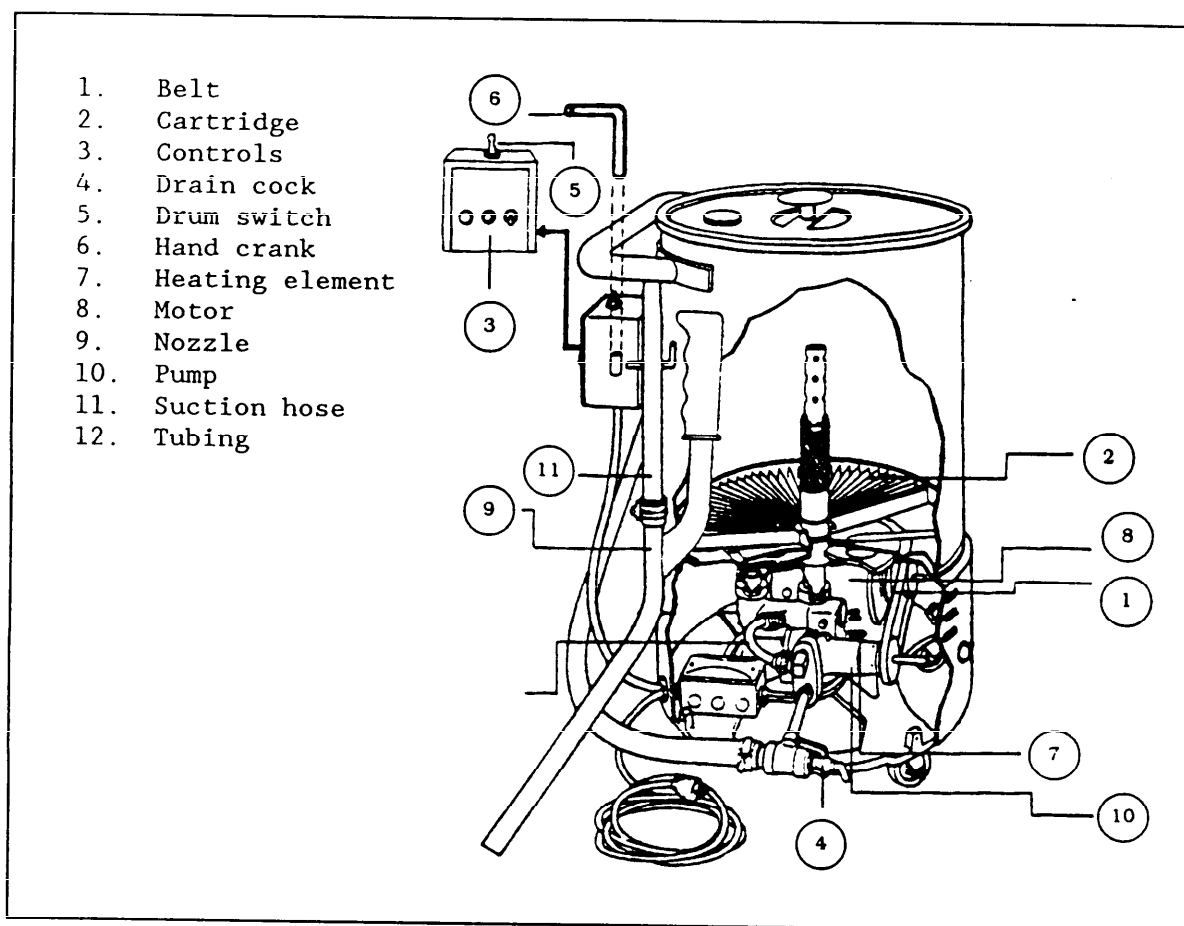

Figure 17
8.3.2 Major Fat Filter Components. Refer to Figure 17 for major fat filter components.